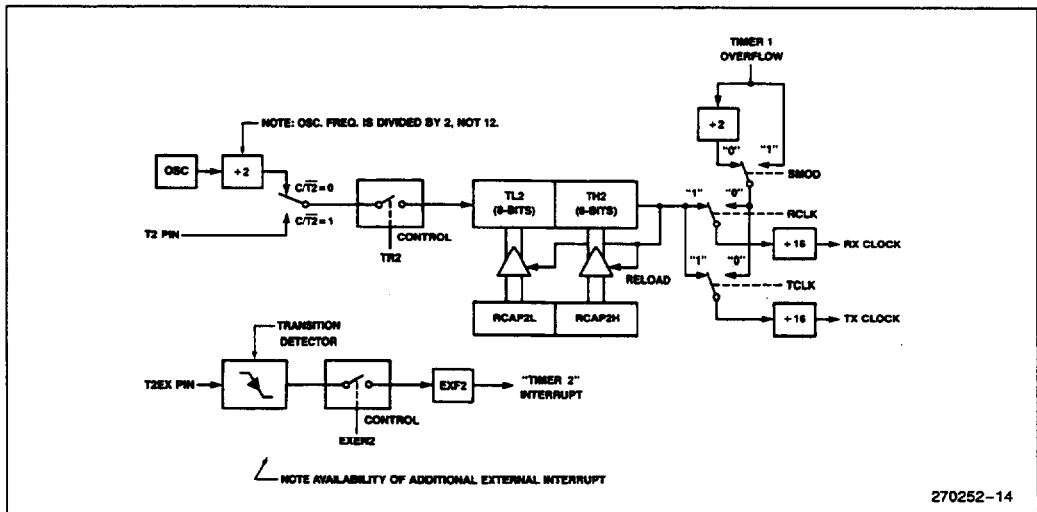

Figure 16. Timer 2 in Baud Rate Generator Mode
11). Note then the baud rates for transmit and receive can be simultaneously different. Setting RCLK and/or TCLK puts Timer 2 into its baud rate generator mode, as shown in Figure 16.
Timer 2 as a baud rate generator is shown in Figure 16. This Figure is valid only if  $RCLK + TCLK = 1$  in T2CON. Note that a rollover in TH2 does not set TF2, and will not generate an interrupt. Therefore, the Timer 2 interrupt does not have to be disabled when Timer 2 is in the baud rate generator mode. Note too, that if EXEN2 is set, a 1-to-0 transition in T2EX will set EXF2 but will not cause a reload from (RCAP2H, RCAP2L) to (TH2, TL2). Thus when Timer 2 is in use as a baud rate generator, T2EX can be used as an extra external interrupt, if desired.